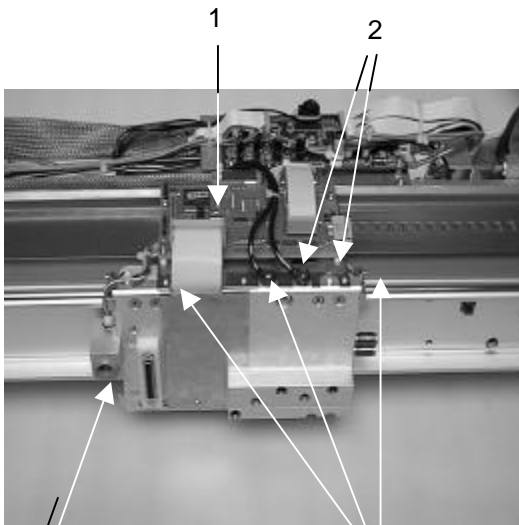

Fig. 1
2. Pull out connection cable between Y-Board and head carriage (Fig. 1 / 1). Remove air connections, if used (Fig. 1 / 2).
3. Remove support plate of Y-Board (3 screws; Fig. 1 / 3). If an EOT should be installed the cable c/w socket must be loosened in order to remove the Y-Board (Fig. 1 / 4).